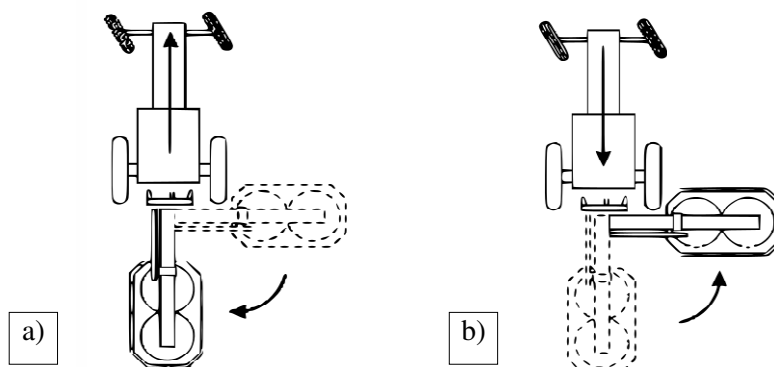

Fig. 13. Mower positions: a) transport position; b) working position
- turn the tractor's front wheels maximum left (**Fig. 13**) and drive backwards until the mower's catch bumper contacts the middle beam,